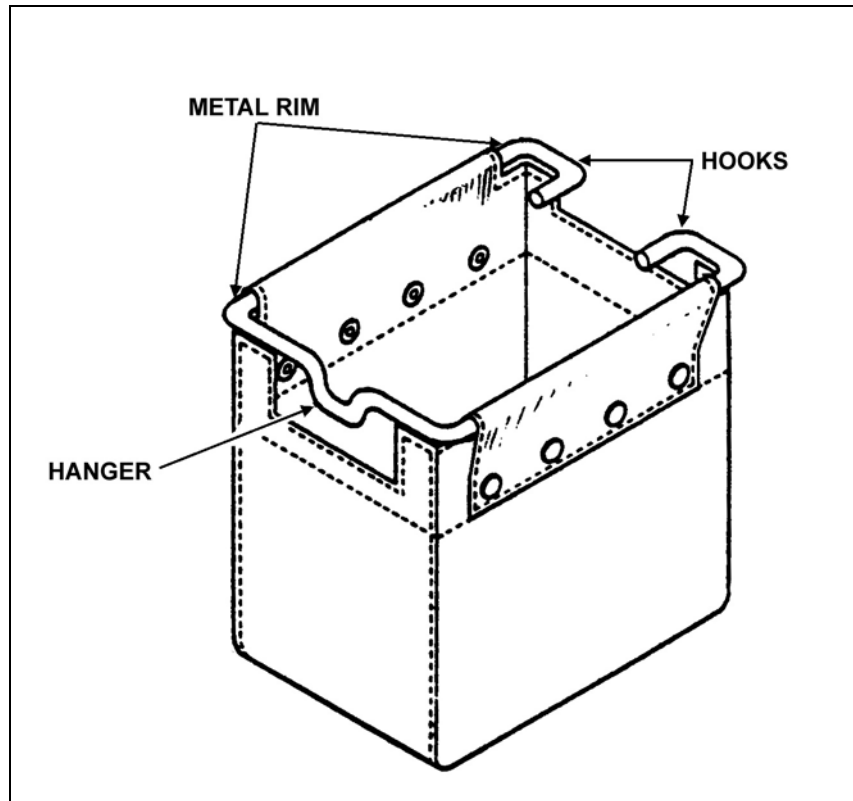

Figure 3-19. Empty case catch bag.
(7) **Empty Case Catch Bag.** This rubberized canvas bag catches empty cartridge cases as they are ejected. It is held in place by a metal rim, which attaches to the bottom of the cradle under the receiver by two hooks and a hanger (Figure 3-19).